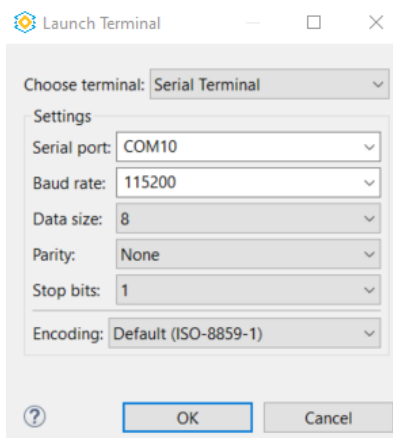
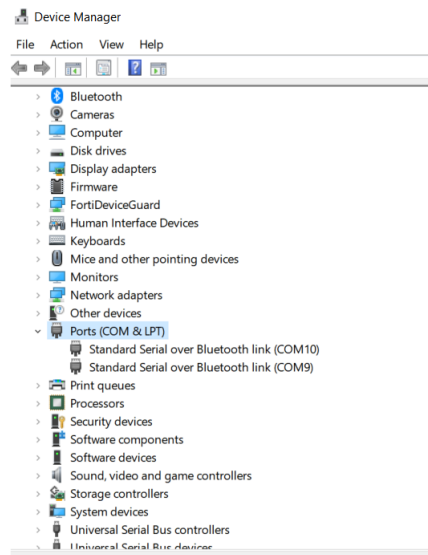

Figure 7.5. UART Launch Terminal Window
Figure 7.6. Device Manager Window on PC
4. **Choose Terminal: Serial Terminal** as shown in Figure 7.5. In Serial port dropdown list, select the last COM in the list as shown in Figure 7.6.